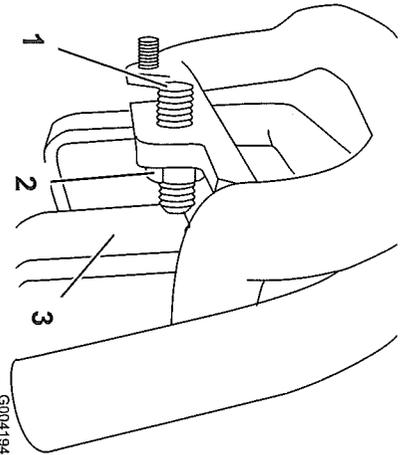

Figure 55
- If the traction unit veers to the left, loosen the right jam nut and adjust the tracking set screw on the front of the traction control (Figure 55).
- If the traction unit veers to the right, loosen the left jam nut and adjust the tracking set screw on the front of the traction control (Figure 55).